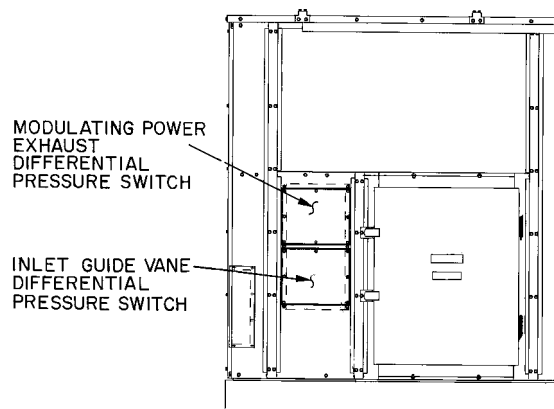

Fig. 61 — Modulating Power Exhaust and Inlet Guide Vane Differential Pressure Switch (Sizes 030-050)
50ZE,ZF,ZR,ZS,ZV,ZY Units — On these units, the inlet guide vanes are controlled by a differential pressure switch (DPS). On sizes 030-050, the DPS is located in the auxiliary control box at the economizer end of the unit (see Fig. 61). On
50ZA,ZB,ZE,ZF Units — These units use a differential pressure switch (DPS) to control the actuator on the modulating discharge damper in exhaust fan no. 1. The building pressure (BP) DPS is located in the auxiliary control box of the unit. See Fig. 61 and 65. Use a nominal 3/8-in. plastic tubing.
50ZJ,ZK Units — These units use a pressure transducer for sensing building pressure. The BP transducer is located in the unit auxiliary control box. See Fig. 61 and 65. Use a nominal 1/4-in. plastic tubing.